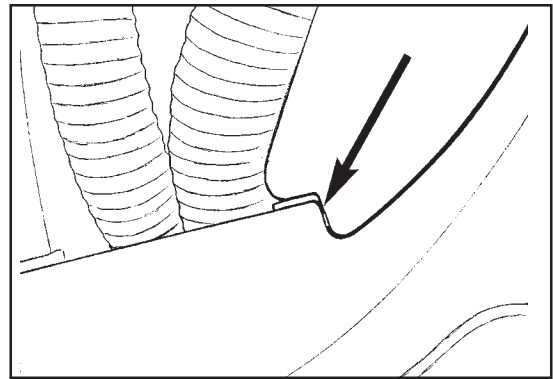

Figure 13A
- Reinstall the recovery tank making sure the pivot pin in the recovery tank is installed under the metal plate on the solution tank (See figure 13A.)